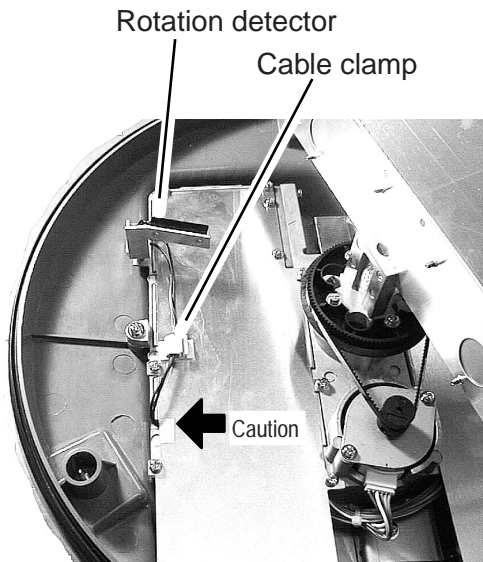

Figure 5 Antenna unit, inside view
11. Refasten the shield plate with 10 screws. Be sure not to pinch cable from the rotation detector with the shield plate. See "Caution" in Figure 5 for details.